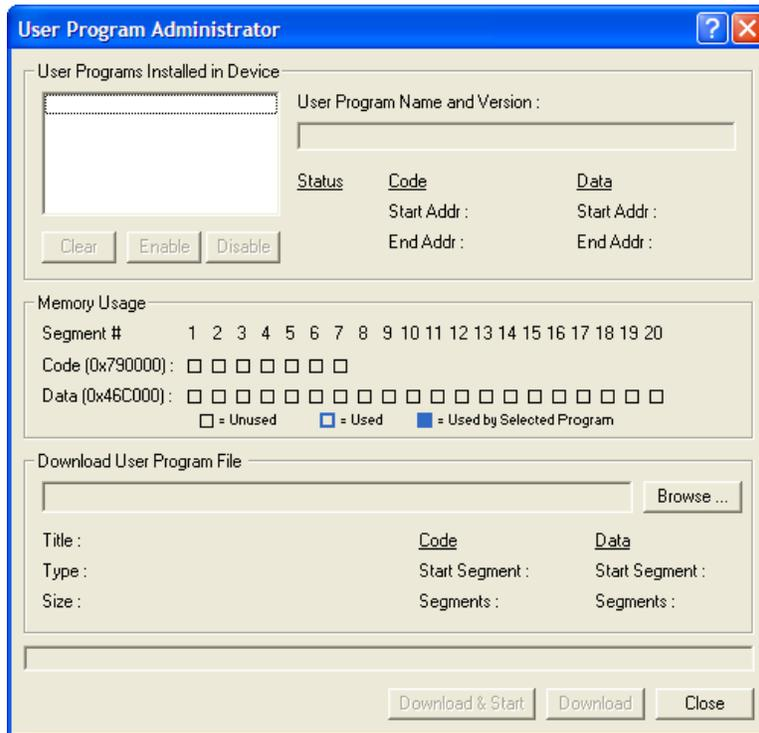

Figure 2. User Program Administrator Screen
4. Select Utilities > User Program Administrator from the ROCLINK menu bar. The User Program Administrator screen displays (see *Figure 2*):